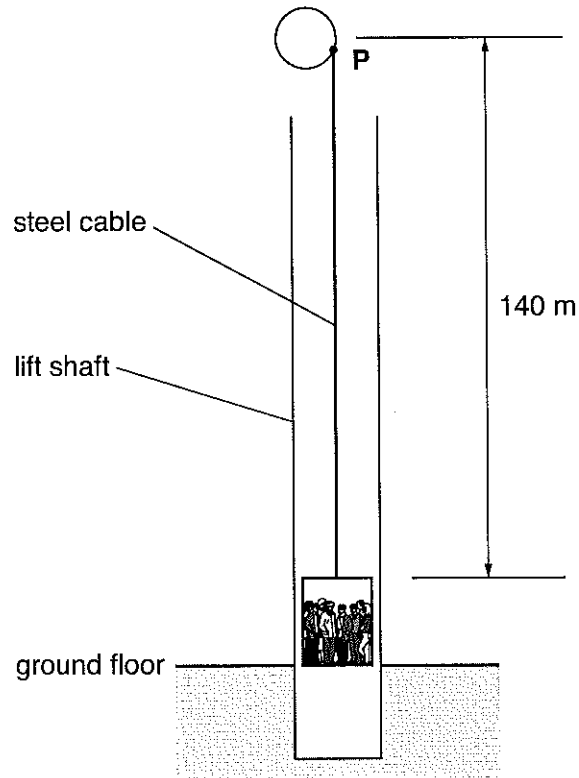

Fig. 3.1
- 3 A lift has a mass of 500 kg. It is designed to carry a maximum of 8 people of total mass 560 kg. The lift is supported by a steel cable of cross-sectional area $3.8 \times 10^{-4} \text{ m}^2$. When the lift is at ground floor level the cable is at its maximum length of 140 m, as shown in Fig. 3.1. The mass per unit length of the cable is 3.0 kg m^{-1} .